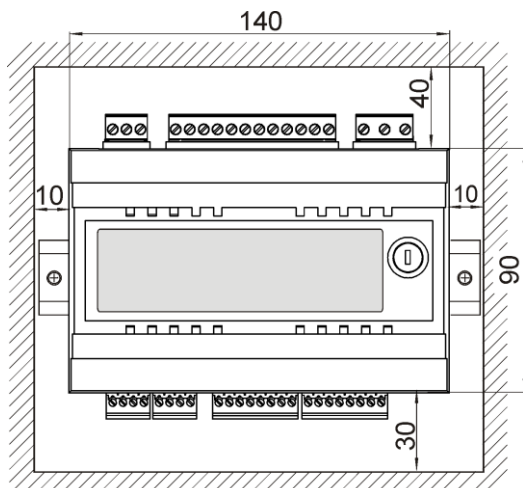

Fig. 15 Space requirements for mounting single working module
Module housing does not assure dust- or waterproofness. To provide the required protection, appropriate module cover should be provided. Assembly shall assure IP rating appropriate to the environment conditions, in which the regulator will operate. Moreover, access of the user to live parts under hazardous voltage (e.g. terminals) shall be prevented. Standard housing may be used to accommodate the regulator. In such case the user will have access to front surface of working module. Housing may be also formed by boiler elements surrounding the whole module- see Fig. 16b. Space required for mounting a single working module is shown in Fig. 15.
The working module is designed to be mounted on standard DIN TS35 rail. Fasten the rail firmly to a rigid surface. Prior to placing the modules on the rail (1) - lift up the catches (2) using screwdriver - see Fig.15.